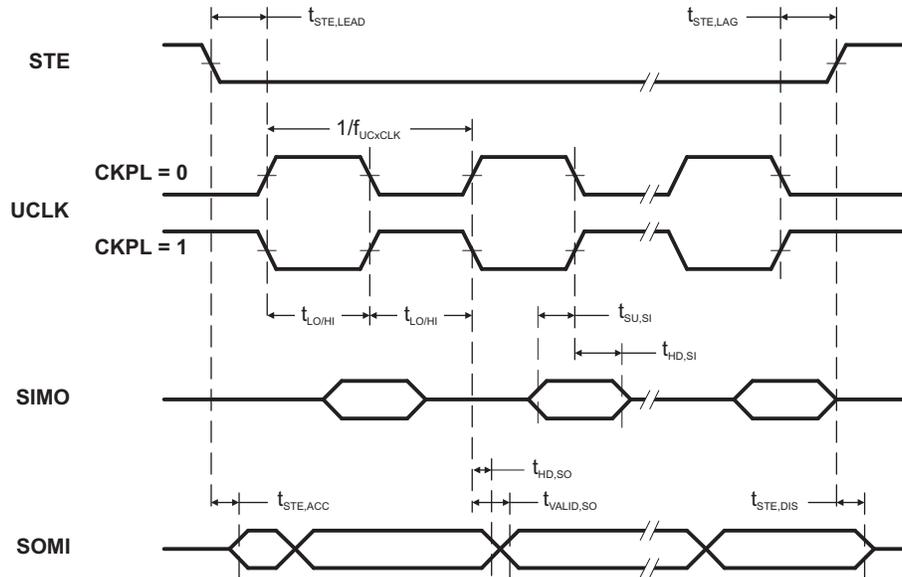
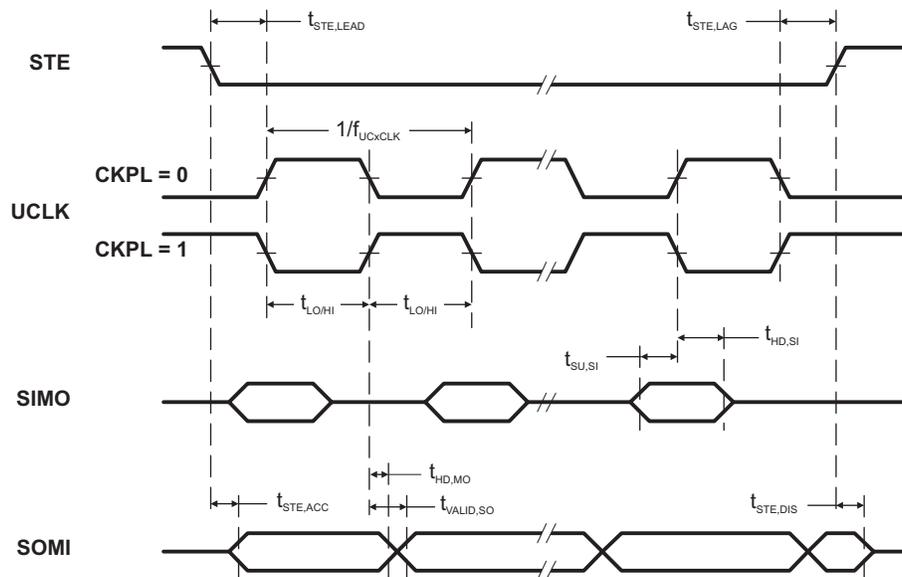

Figure 5-15. SPI Slave Mode, CKPH = 0
Figure 5-16. SPI Slave Mode, CKPH = 1
(see Note (1), Figure 5-15 and Figure 5-16)